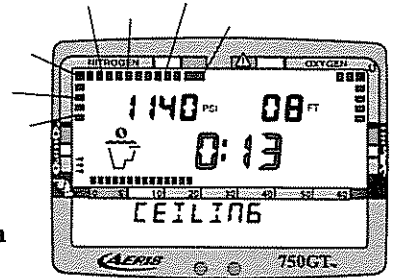

Fig. 92 - Delayed Violation (above ceiling >5min)
1. You remain above the required Decompression Ceiling Stop Depth for more than 5 minutes (Fig. 92).